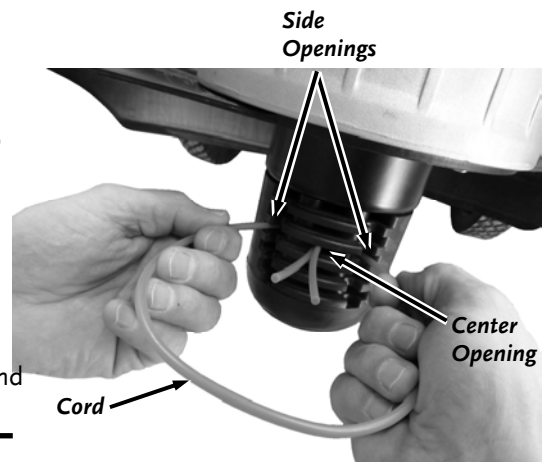

Figure 18
1. Insert the ends of the Cord into the side openings in the Line Plate (**Figure 18**).